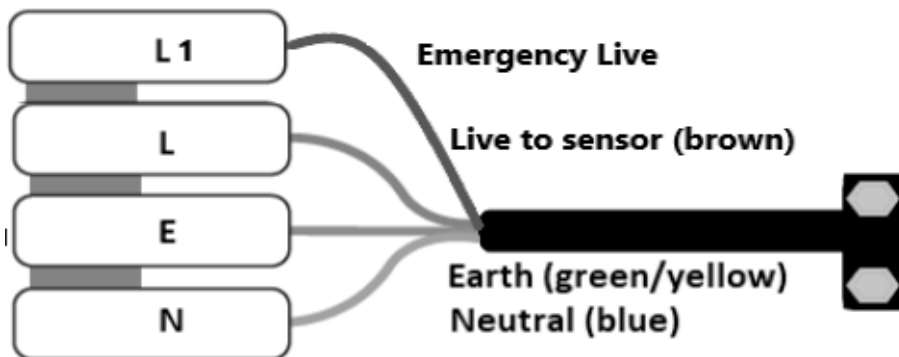

Fig. 2
- Connect L1 Emergency Live, L Live to Sensor (brown), N Neutral (blue) and E Earth (green/yellow) to the terminals on the terminal block of the chosen LED plate ensuring the cable is secured in the cable clamp (see Fig. 2)